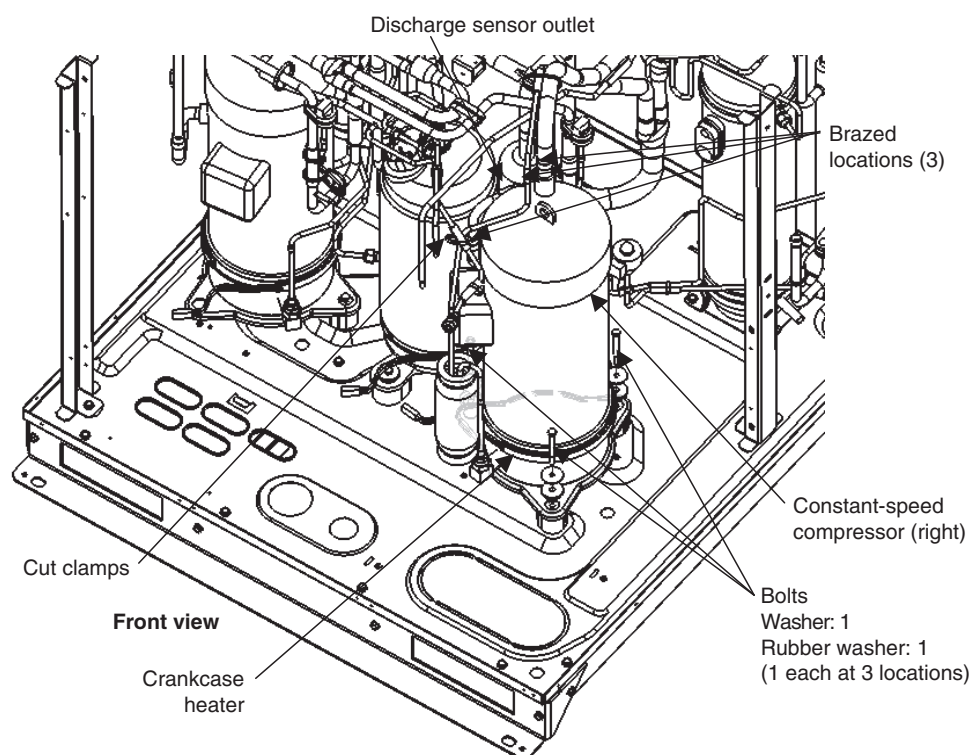

Fig. 27
- (6) Prepare to disconnect the 3 brazed locations shown in the figure 27.
- (7) Disconnect the 3 brazed locations shown in the figure 27.
- (8) Cut clamps as shown in the figure 27, and then pull the compressor toward you.